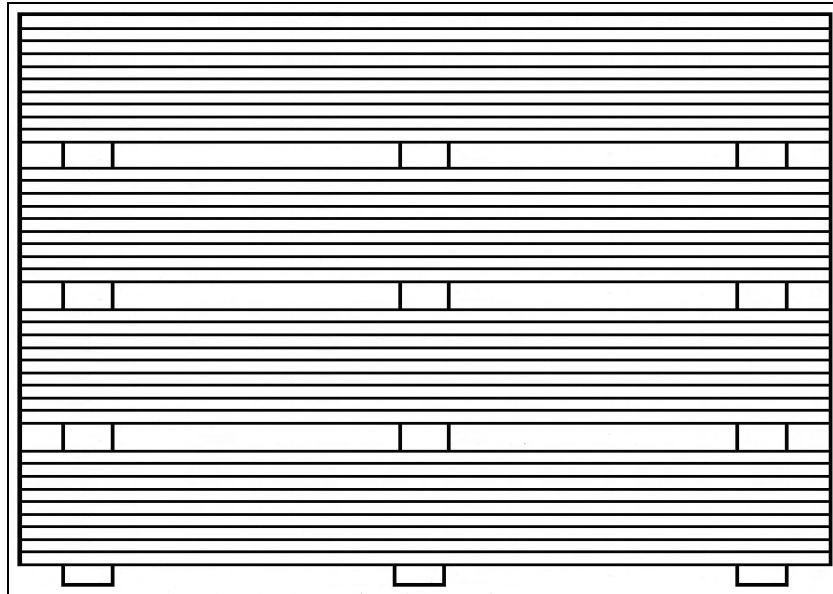

Figure 3-11. Stacking Pallets
- a. Stack pallets, topside up, no more than 40 high with three pieces of dunnage between each group of 10 (see Figure 3-11).